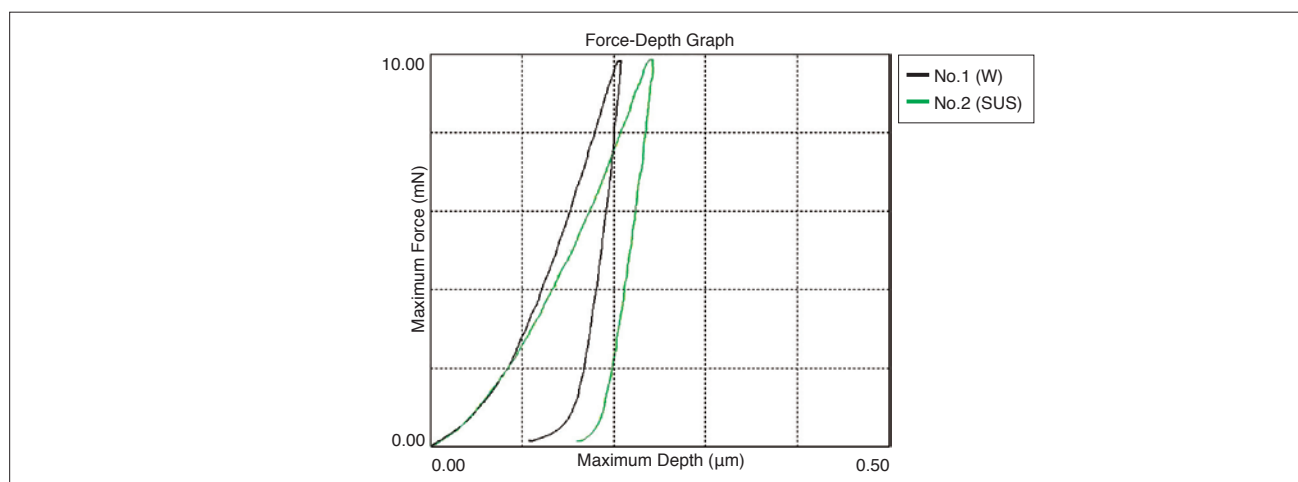

Fig. 3 Force-Depth Graph
- 2) Fig. 3 shows the force-depth graph after testing.